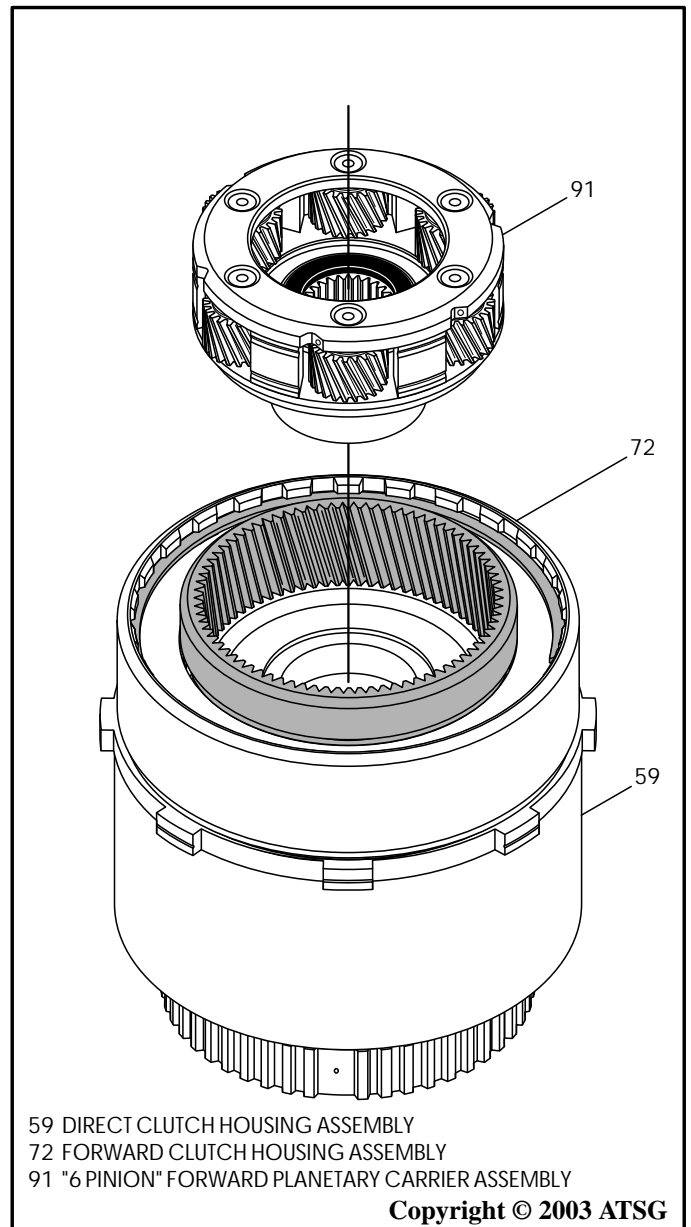

Figure 129
9. Install the complete forward planetary carrier assembly into the ring gear, by rotating into position, as shown in Figure 129.